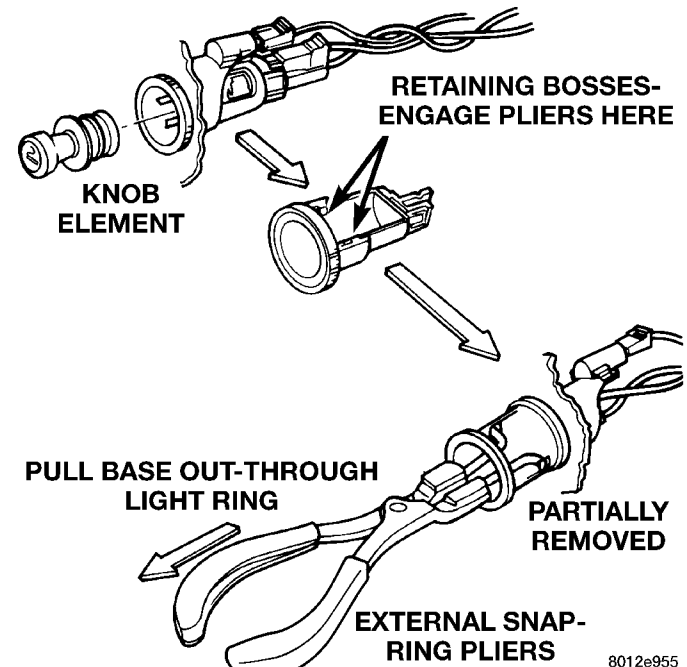

Fig. 15 Cigar Lighter Remove/Install
(1) Disconnect and isolate the battery negative cable.
(2) Pull the cigar lighter knob and element out of the cigar lighter base.
(3) Look inside the cigar lighter base and note the position of the retaining bosses that secure the unit to the light ring/retainer in the instrument panel center bezel (Fig. 15).